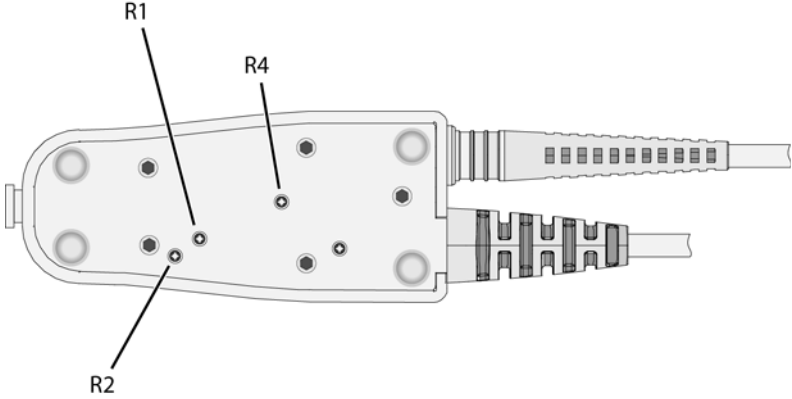

Figure 32 Location of Calibration Adjustments
During this calibration, you may be prompted to make one or more adjustments. These adjustments, located on the underside of the probe amplifier, are shown in Figure 32 on page 67.
- 8 Follow the steps that are displayed on the oscilloscope. If you are prompted to make an adjustment, refer to Figure 32. The adjustments are located on the underside of the probe amplifier.